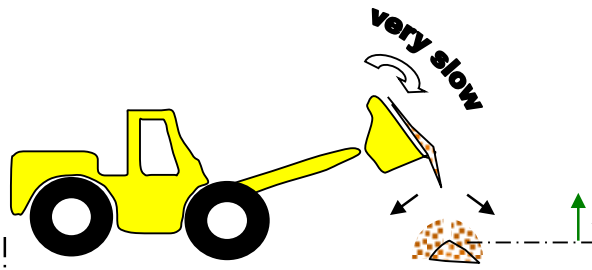

Figure 11
9. From here, the loader operator must dump the material so that it slowly breaks, equally, to both sides of the mini-stockpile. **This allows the center of the pile to build up over time.** (See Fig. 11)